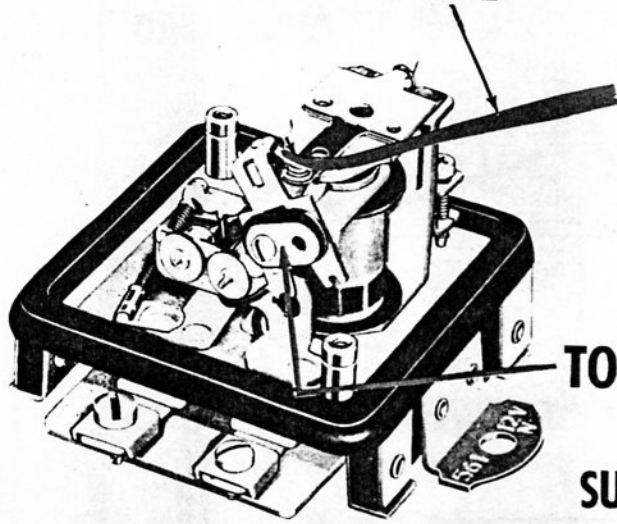

Figure 40
1. If an open transistor was found in the previous check, the large voltage regulator contact must be cleaned with a spoon or riffler file as illustrated in Figure 40.